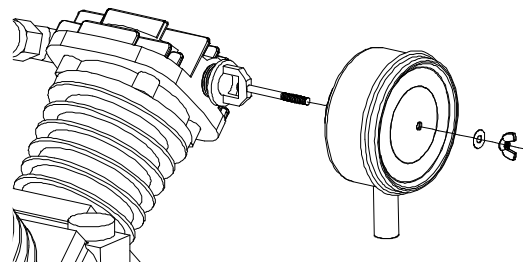

Figure 5
5. Replace air filter housing and washer. Secure with wing nut, hand tighten only. (Figure 5)